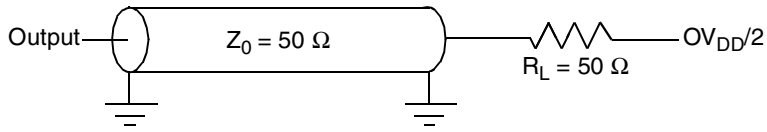

Figure 7. Alternate AC Test Load for the JTAG Interface
- All outputs are measured from the midpoint voltage of the falling/rising edge of TCLK to the midpoint of the signal in question. The output timings are measured at the pins. All output timings assume a purely resistive 50- $\Omega$  load (see Figure 7). Time-of-flight delays must be added for trace lengths, vias, and connectors in the system.
Figure 7 provides the AC test load for TDO and the boundary-scan outputs of the MPC7448.